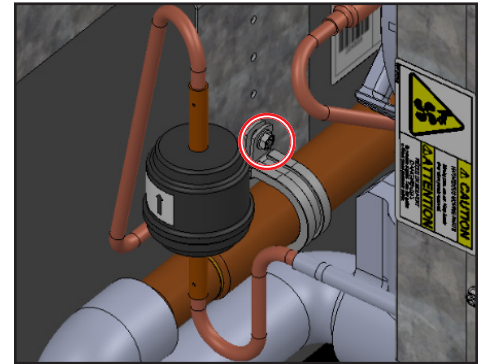

Fig. 8. P-clip screw location.
9. Reinstall the p-clip. See fig. 8.